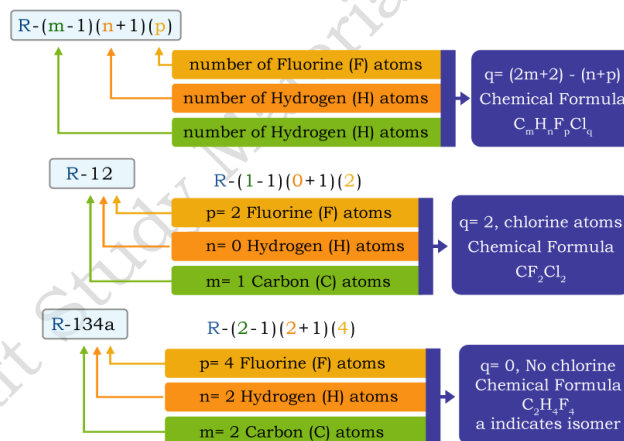

Fig. 4.5 Saturated Hydrocarbons
1. **Saturated Hydrocarbons** – These refrigerants are derivatives of alkanes (C_nH_{2n+2}) such as methane (CH_4), ethane (C_2H_6), and propane (C_3H_8). They are denoted by the chemical formula $C_mH_nF_pCl_q$ in which $(n + p + q) = 2m + 2$. These refrigerants are designated by R – $(m - 1)(n + 1)(p)$, as described in Figure 4.5, where, m indicates the number of Carbon (C) atoms, n indicates the number of Hydrogen (H) atoms and p indicates the number of Fluorine (F) atoms. The balance indicates (q) the number of Chlorine (Cl) atoms.